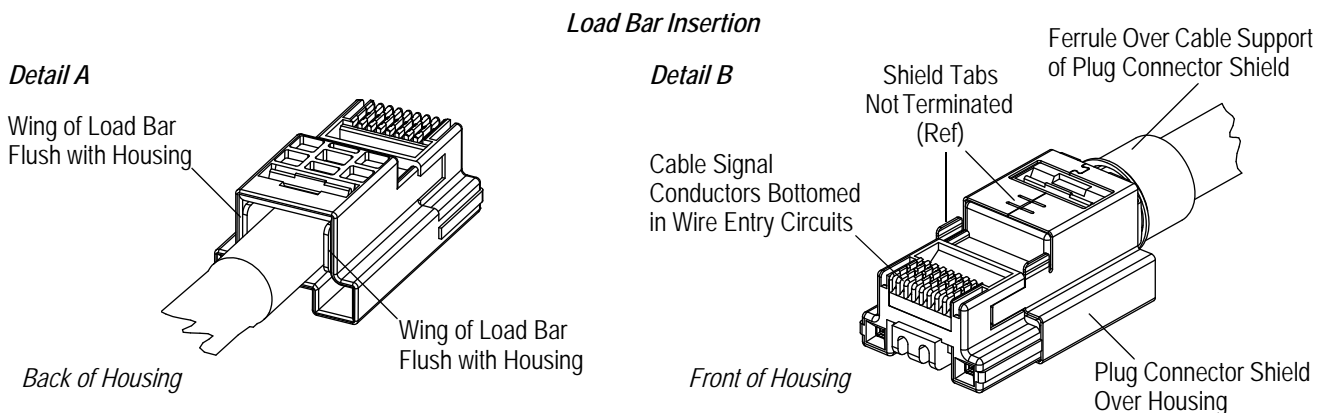

Figure 7
9. The load bar must be press fit into the housing so that the wings are flush with the back of the housing. The interference fit between the load bar and housing is designed to keep these parts together. Resistance during this assembly is normal. See Figure 7, Detail A.
The signal conductors must be bottomed in the wire entry circuits and clearly visible through the front of the housing. See Figure 7, Detail B.
10. The plug connector shield must be positioned over the housing, and the ferrule must be positioned over the cable support of the plug connector shield. Refer to Figure 7, Detail B.